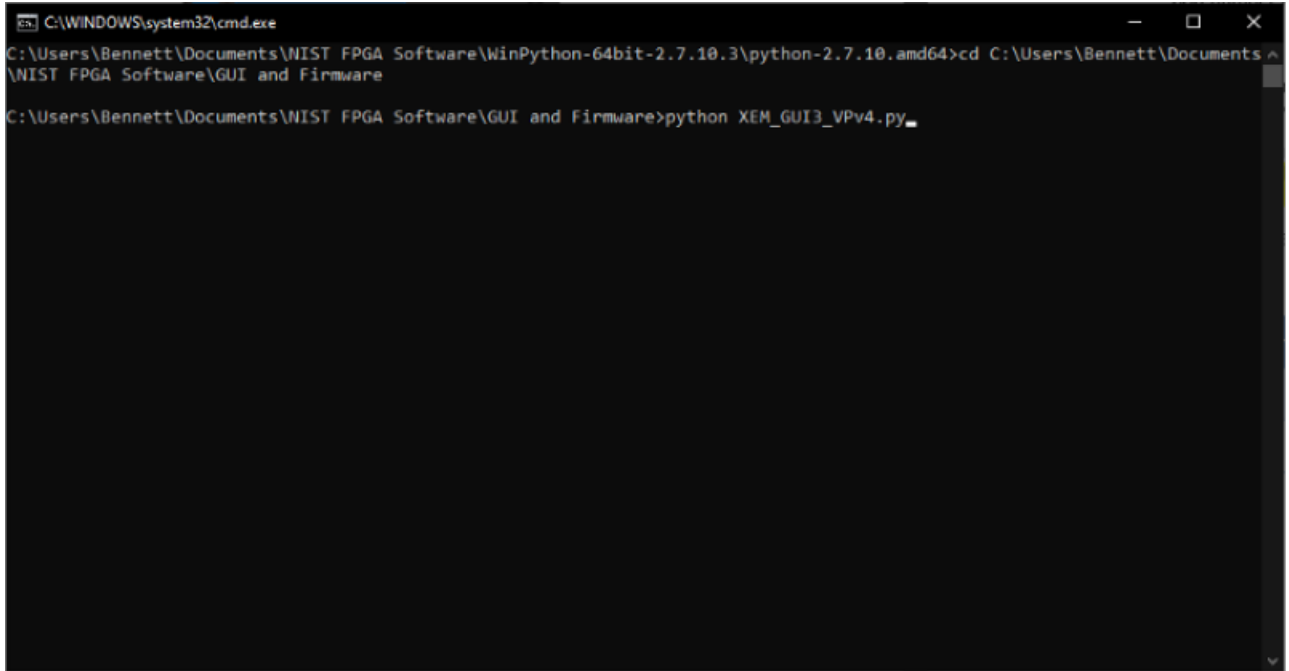

Fig. 1: Start FPGA GUI from Terminal
2. Start the SLICE-FPGA control GUI by typing “python XEM_GUI3_VPv4.py”, figure 1).